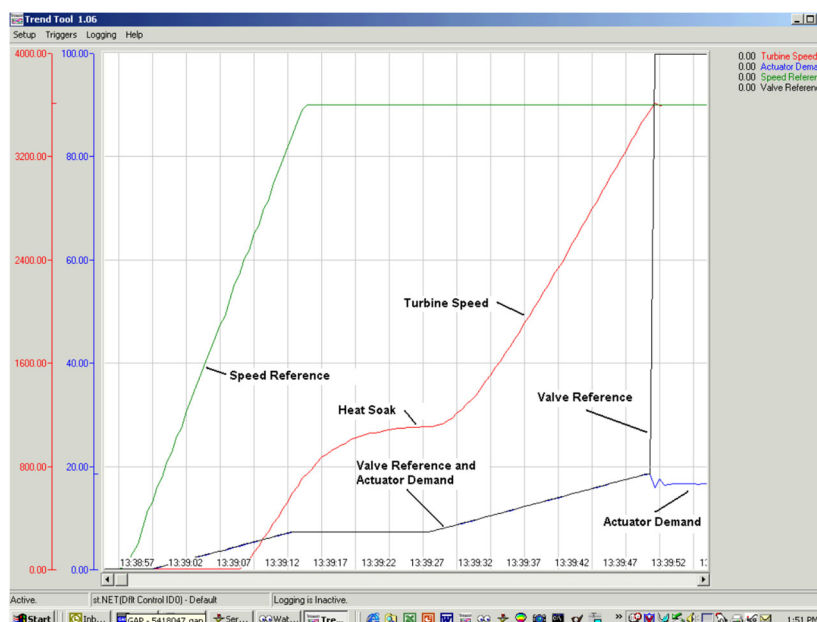

Figure 4-3. Semi-Automatic Start-Up
- Figure 4-3 is an example of a semi-automatic start sequence.